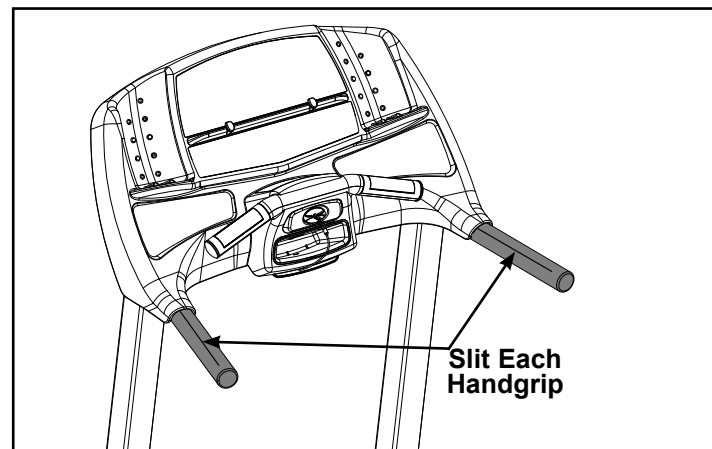

Figure 15
- A. Using a razor blade, carefully slit each handgrip that is on the treadmill. See Figure 15.